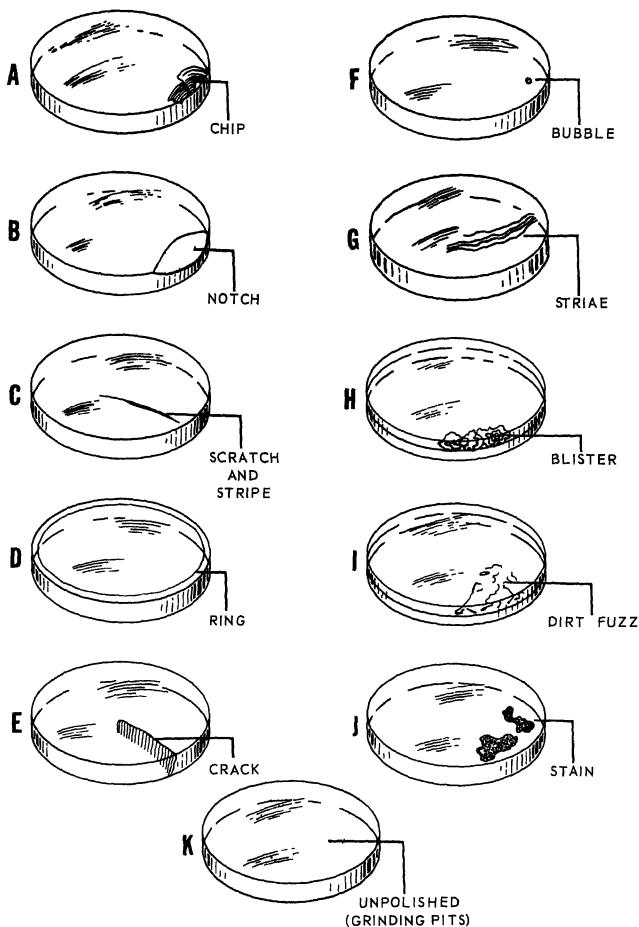

Figure 7-2.—Optical defects.
Some optical defects are illustrated in views A through K in figure 7-2. If available, get some lenses with the defects shown, and study them as you read the following information.
**CHIP.**—A chip (fig. 7-2, view A) is a break at the edge of a lens or prism caused by uneven pressure or burrs on the seat of the lens mount.
**NOTCH.**—A notch (fig. 7-2, view B) is a ground-off surface of a lens or prism. A notch is serious only if it is located where it will interfere with sealing or light transmission.
**SCRATCH AND STRIPE.**—A scratch (fig. 7-2, view C) remains visible as you rotate a lens or prism through 360°; a stripe, on the other hand, vanishes at some position as you rotate the optical element. You can see scratches and stripes most easily in optical elements when you place the elements against a dark background.
**RING.**—A ring (fig. 7-2, view D) is a circular mark around the external edges of a lens, and it is caused by wear of the lens by the mount seats and the retainer ring. An internal ring between the elements of the lens may appear at the edges of the lens when lens cleaning fluid dissolves the Canada balsam.
**CRACK.**—A crack (fig. 7-2, view E) is a fracture of the lens or prism generally caused by a sudden change of temperature, because the center of the optical element does not expand or contract as rapidly as its edge section.
**BUBBLE.**—A bubble (fig. 7-2, view F) may result from gases left in the glass during manufacture or from air that did not escape from the cement when the elements were joined.
**STRIAE.**—Striae (fig. 7-2, view G) look like veins or cords running through the glass, and you can see them by looking through the glass at a contrasting light and dark background. This is a manufacturing defect in the optical element.
**BLISTER.**—A blister (fig. 7-2, view H) is an air bubble trapped in the layer of cement between two lenses. If it extends toward the center of the lens, it is called a RUN-IN, generally produced by the dissolving action of a cleaning fluid. A blister, however, may result from uneven mounting during assembly of the instrument or by dirt between cemented lenses. Blisters can be seen best by reflected light, and they usually increase in size over a period of time.
**DIRT FUZZ.**—Lint, dust, or dirt (fig. 7-2, view I) in the layer of a cement between lenses may eventually cause a blister. You can see this type of foreign matter in a lens most easily by transmitting light through it against a dark background. Dirt fuzz is caused by careless cleaning and cementing.
**STAIN.**—A stain (fig. 7-2, view J) is usually brown or green and is produced by evaporation of moisture that gets on lenses or prisms and dissolves some of the antireflecting coating, thereby causing a very faint deposit (sometimes bacterial in growth).
**UNPOLISHED CONDITION.**—An unpolished optic (fig. 7-2, view K) results from the manufacturer's failure to remove grinding pits from it. In some instances, however, this condition is apparent on optical surfaces exposed to gases, grit, and particles of all sorts in the atmosphere.